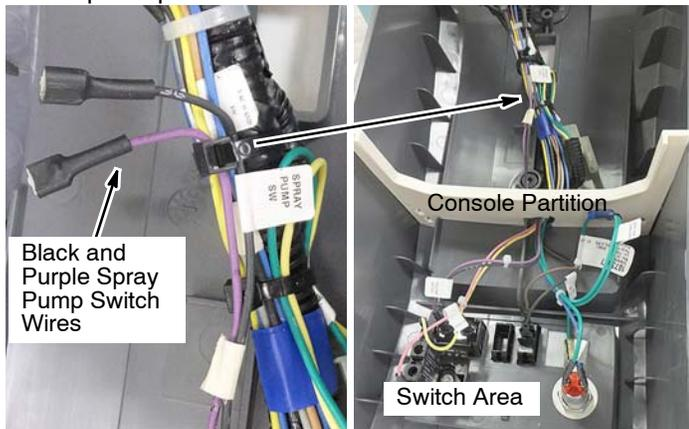

Fig. 20
2. Locate the factory installed black and purple spray pump switch wires that are cable-tied to the main harness. Cut cable-tie. Lift the console partition and route the two wires to the switch area (Figure 20). Replace partition.